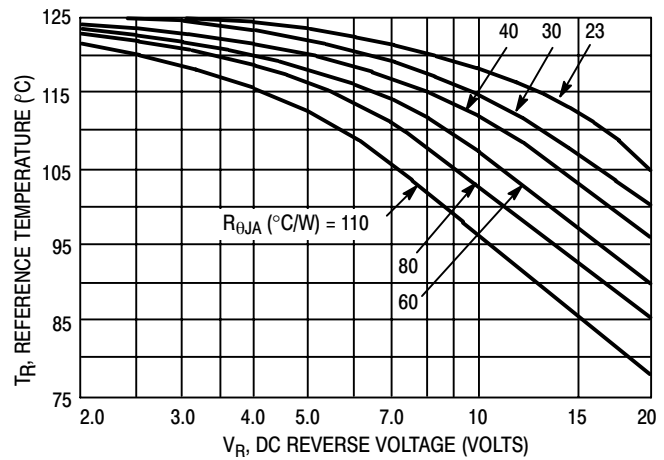

Figure 1. Maximum Reference Temperature
Figures 1, 2, and 3 permit easier use of equation (1) by taking reverse power dissipation and thermal runaway into consideration. The figures solve for a reference temperature as determined by equation (2).
Inspection of equations (2) and (3) reveals that T_R is the ambient temperature at which thermal runaway occurs or where $T_J = 125^\circ\text{C}$, when forward power is zero. The transition from one boundary condition to the other is evident on the curves of Figures 1, 2, and 3 as a difference in the rate of change of the slope in the vicinity of 115°C. The data of Figures 1, 2, and 3 is based upon dc conditions. For use in common rectifier circuits, Table 1 indicates suggested factors for an equivalent dc voltage to use for conservative design, that is: